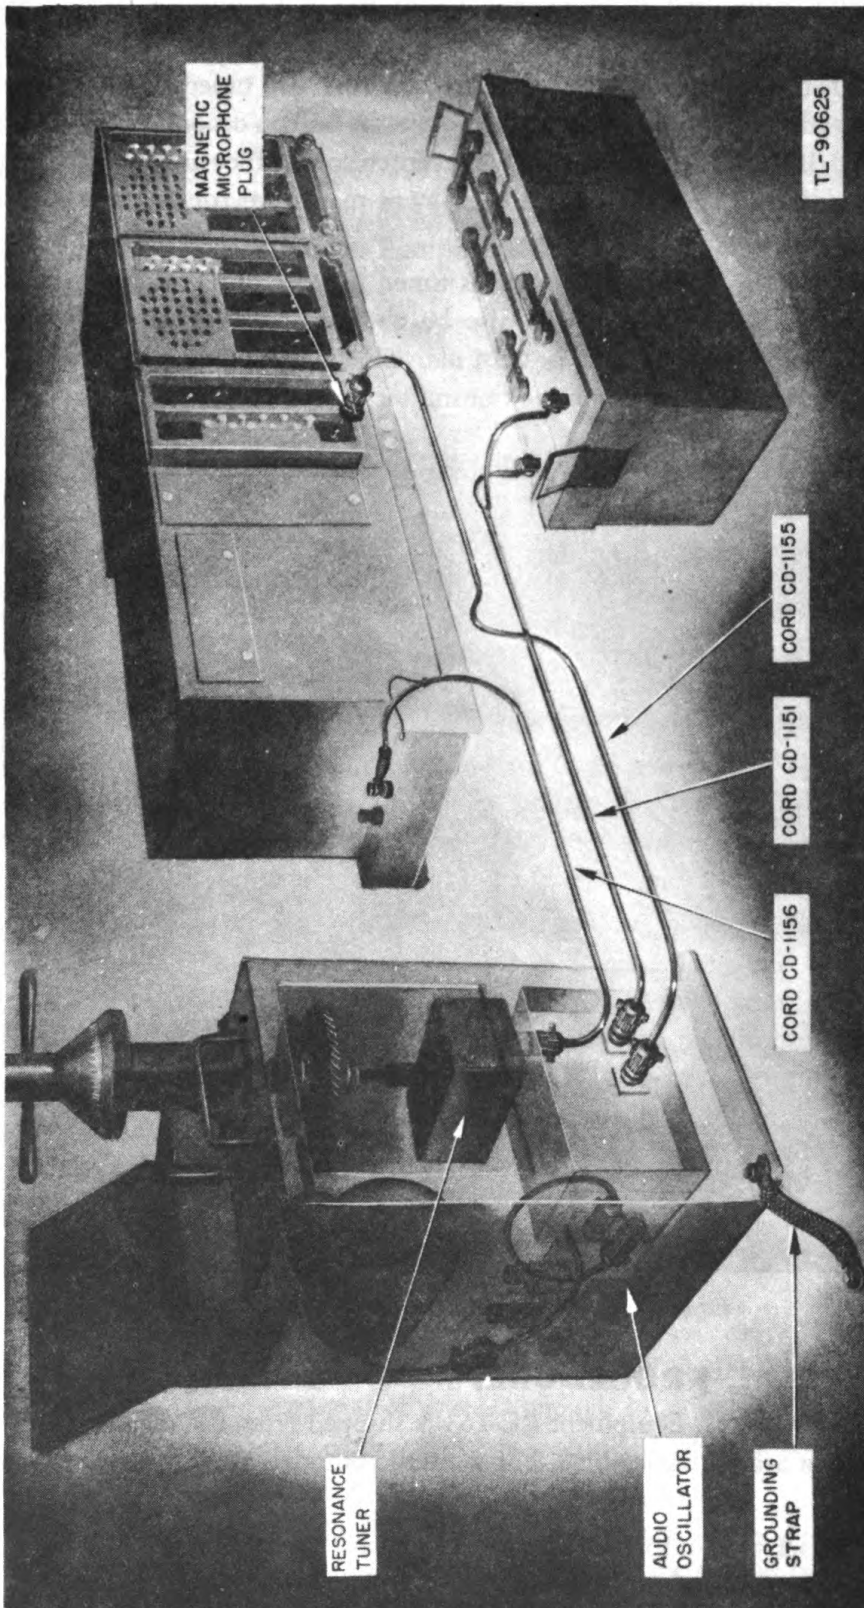

Figure 22. Cording diagram.
a. *Cord CD-1151 (fig. 22).* (1) Plug the 2-contact plug of Cord CD-1151 into the terminal marked POWER on the control panel of the antenna mount. Screw the locking ring tight.
(5) If a separate battery is used connect the black lug of Cord CD-1151 to the negative terminal of the battery and the red lug to the positive terminal.
**b. Cord CD-1156.** (1) Connect the plug end of Cord CD-1156 (r-f coaxial cable) to the resonance tuner through the large clearance hole in the top of the beacon control panel on the antenna mount (fig. 22).
(2) Connect the central conductor on the other end of Cord CD-1156 to the TR binding post on the end of the transmitter mounting and ground the coaxial cable sheath to the unmarked grounding screw next to the TR binding post (figs. 22 and 24).
*a.* Make all cable connections between the beacon antenna mount and the transmitter (fig. 22).